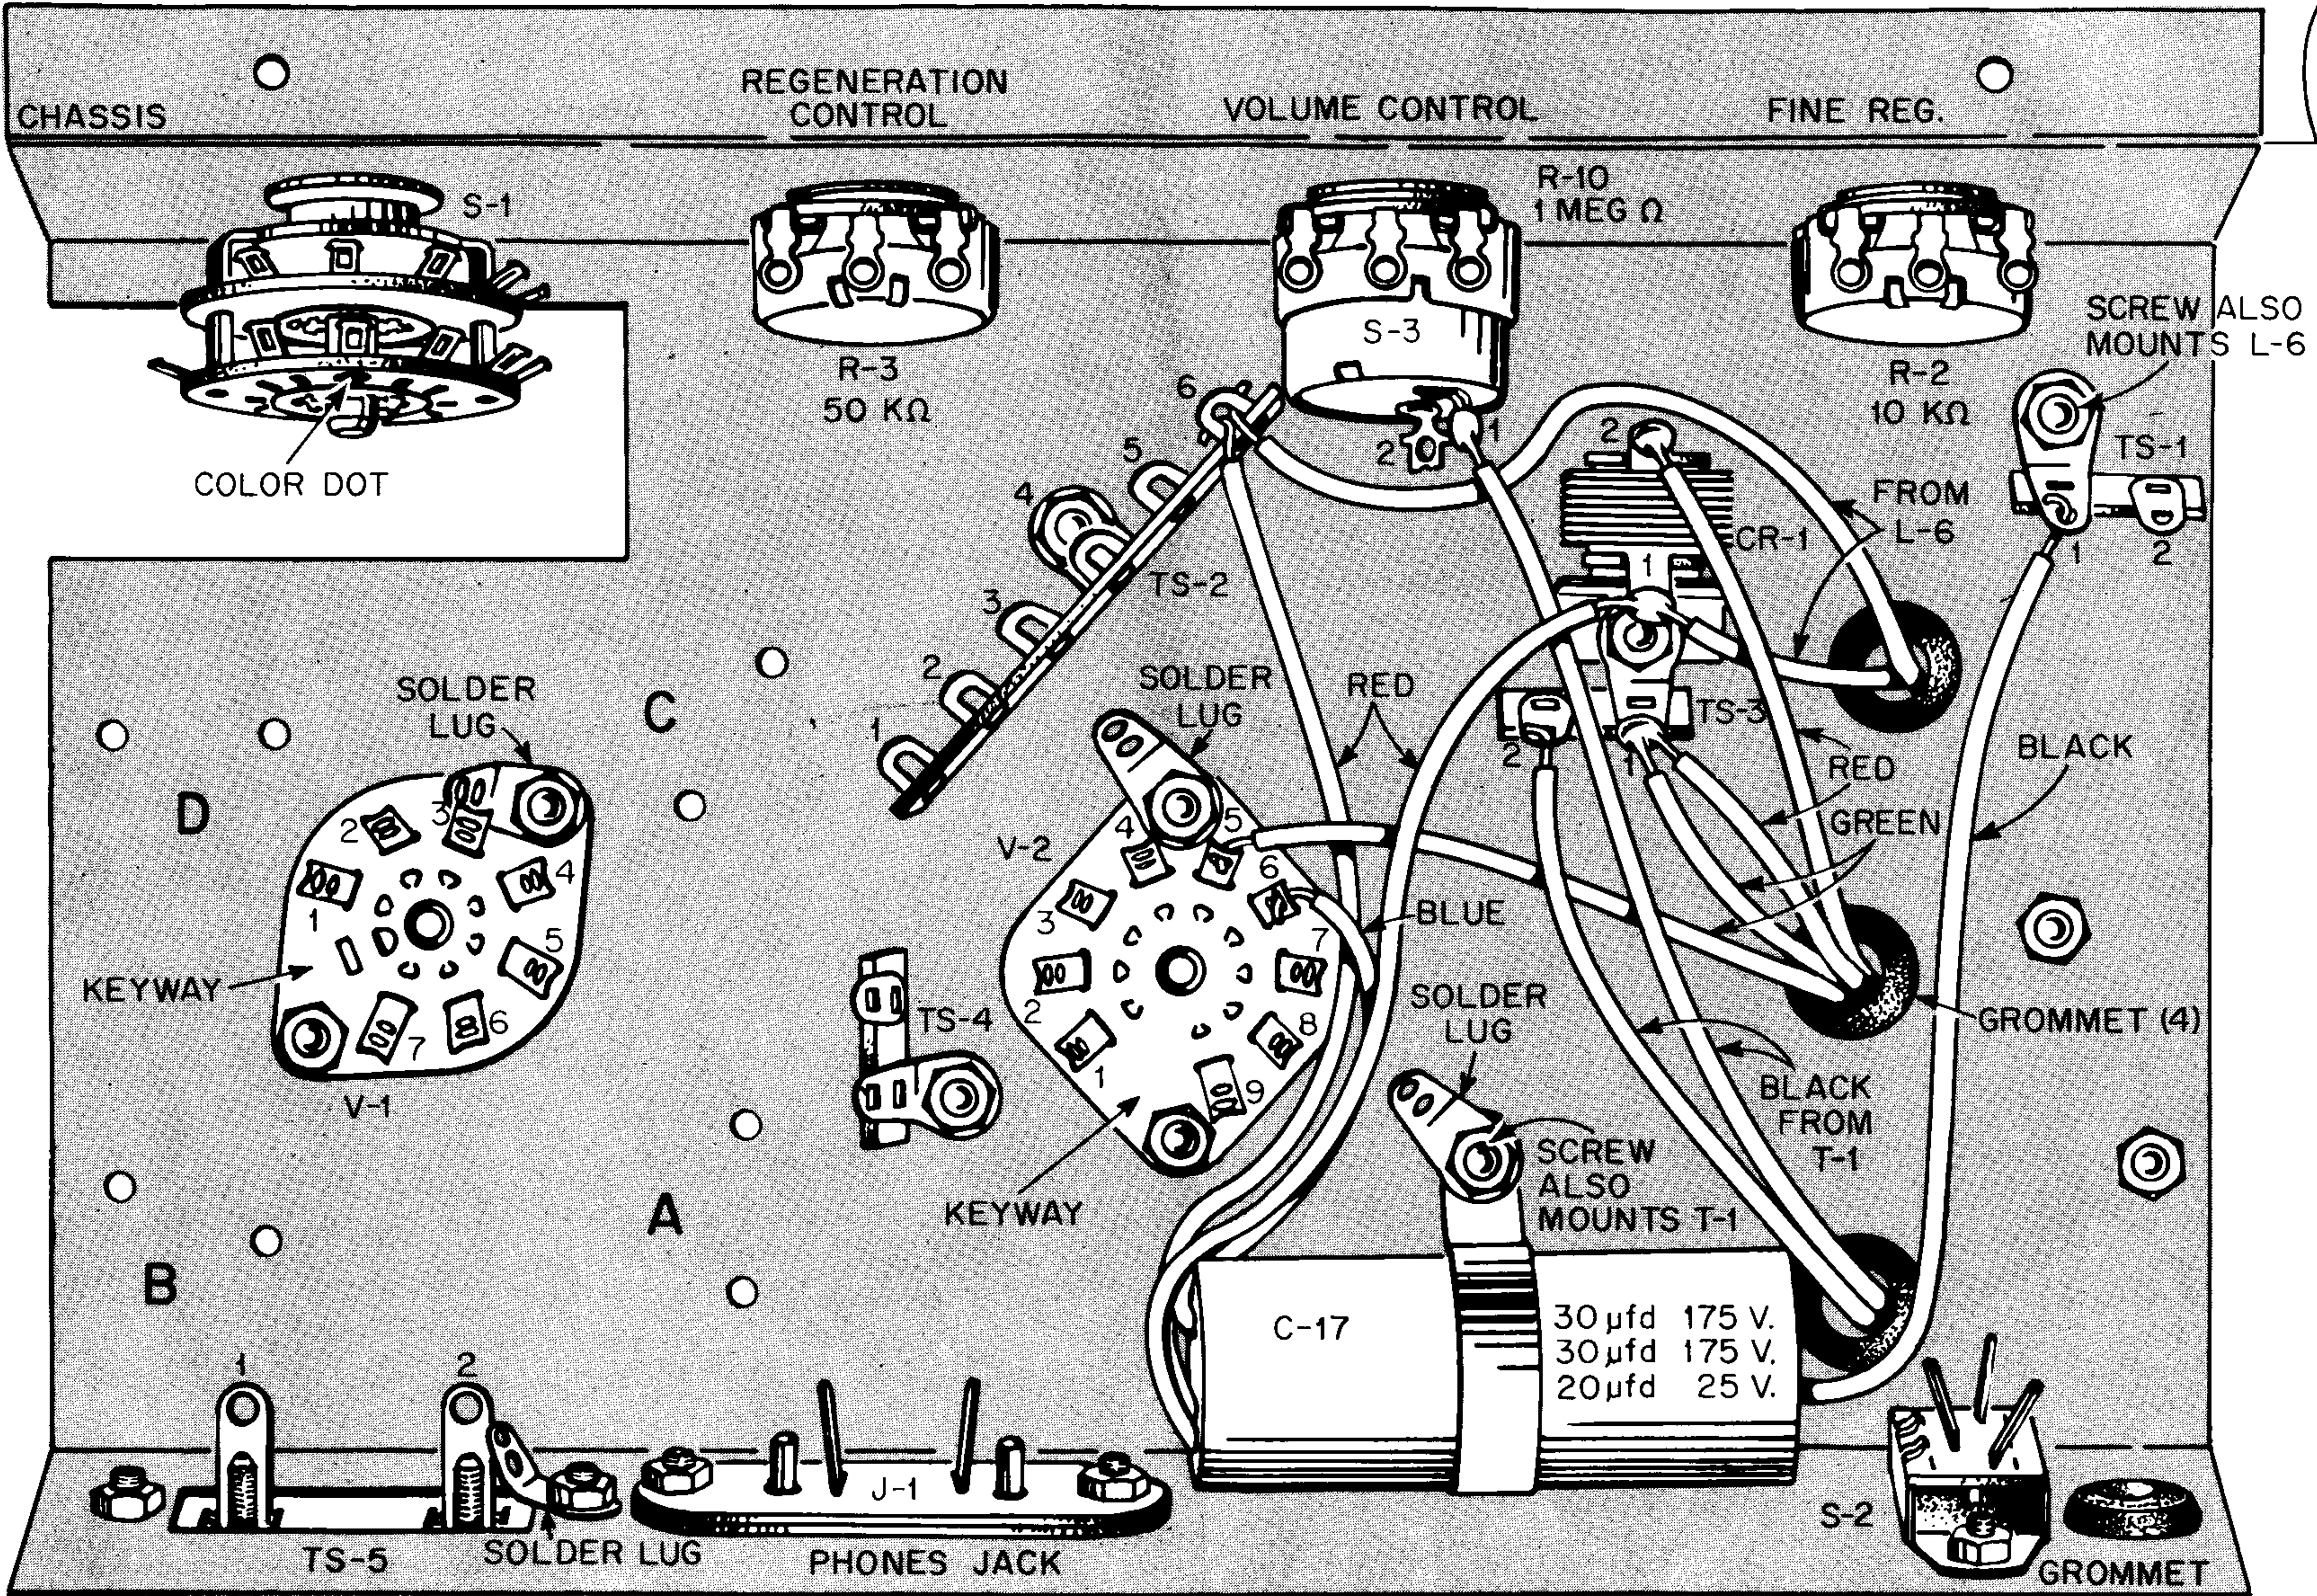

FIGURE 3. FIRST PARTS MOUNTING AND WIRING VIEW
### SEE FIGURE 3.
- Mount S-1, the BAND SWITCH, as shown in Figure 2. Position the color dot as shown in Figure 3. Notice that first a lockwasher is slipped over the shaft of S-1. Then the shaft is pushed through the chassis and the panel. From outside the panel, a flat washer and nut are slipped on the shaft and tightened.